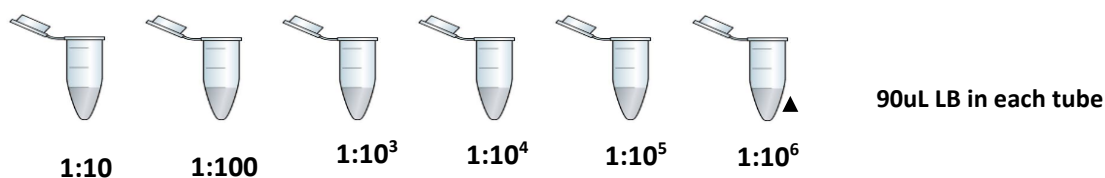

Fig. 1
7. Arrange the microfuge tubes in your microfuge tube rack in the order they are shown in Fig 1.